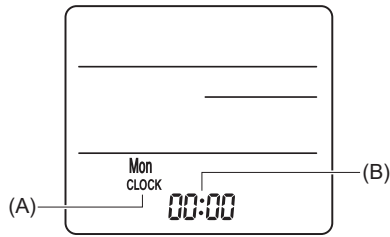

Fig. 6-9
3) Setting (Clock setting) (Fig. 6-9)